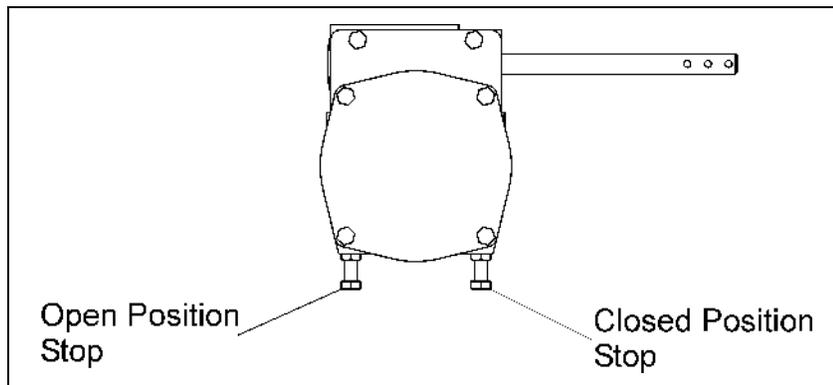

Figure 5— Open and Closed Position Stop Identification
See Figure 5 for stop Identification.
**To adjust the closed position stop: (see Figure 5 for stop identification) Adjusting stops with flow in the pipeline can allow the valve to close causing personal injury and damaging the flow system.**
See Figure 5 for stop identification.